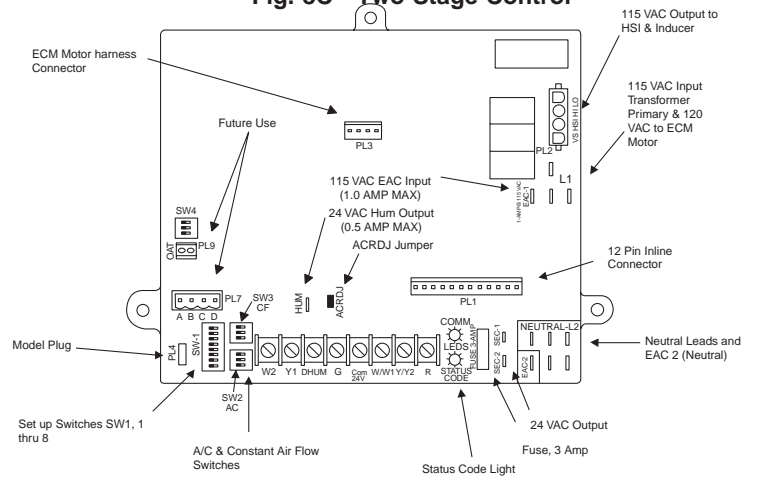

Fig. 8D—Variable Speed Control
Turn Setup Switch SW1-2 on furnace control ON (See Fig. 8D.)
1. Make sure Setup Switch SW1-2 on furnace control ON. (See Fig. 8D.)